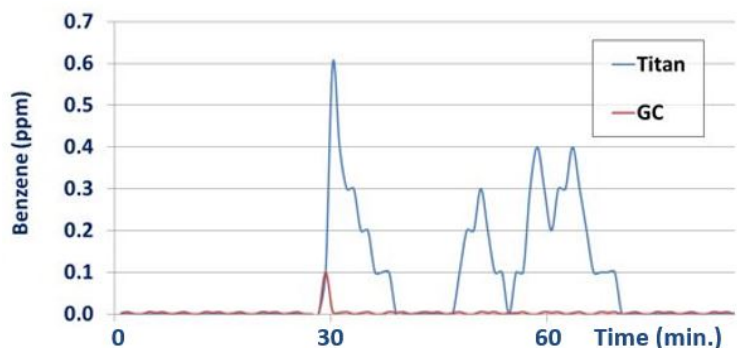

Figure 4. Titan's continuous readings record benzene emissions completely missed by an on-line GC.
Figure 4 demonstrates the importance of continuous monitoring. In a field study we compared the response of the Titan to an on-line gas chromatograph (GC). The Titan makes a measurement every 1-2 minutes, whereas the GC has a turnaround time of one hour. In this example, significant amounts of benzene were present between 30 and 70 minutes and were clearly delineated by the Titan, but almost entirely missed by the GC, because it only sampled once just before this time period. Therefore the Titan provides a better warning of potentially hazardous atmospheres than an on-line GC.